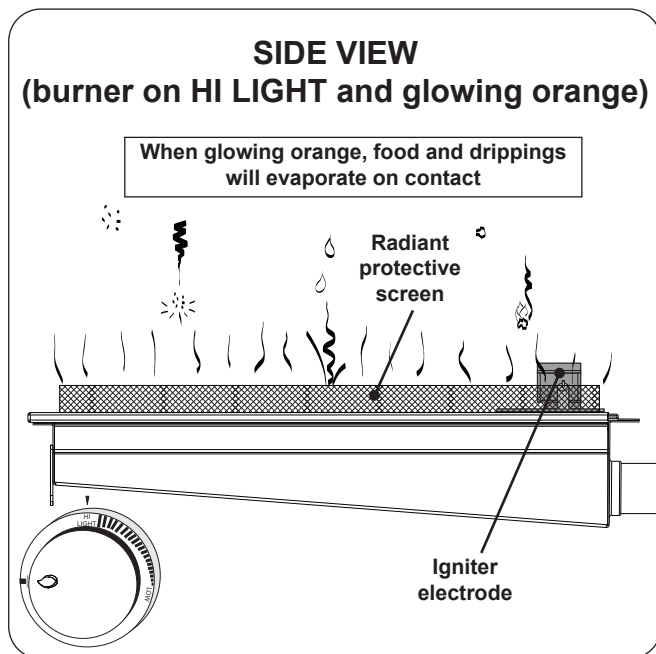

Fig. 36-2 Searing Station - DURING USE
- When not in use, **always** close the searing station lid. This protects the burner from drippings (from other cooking), water, airborne particles, and foreign objects (Fig. 36-2).
- Do not strike or scrape the ceramic portion of the burner as it may chip, crack, or break (Fig. 36-2).